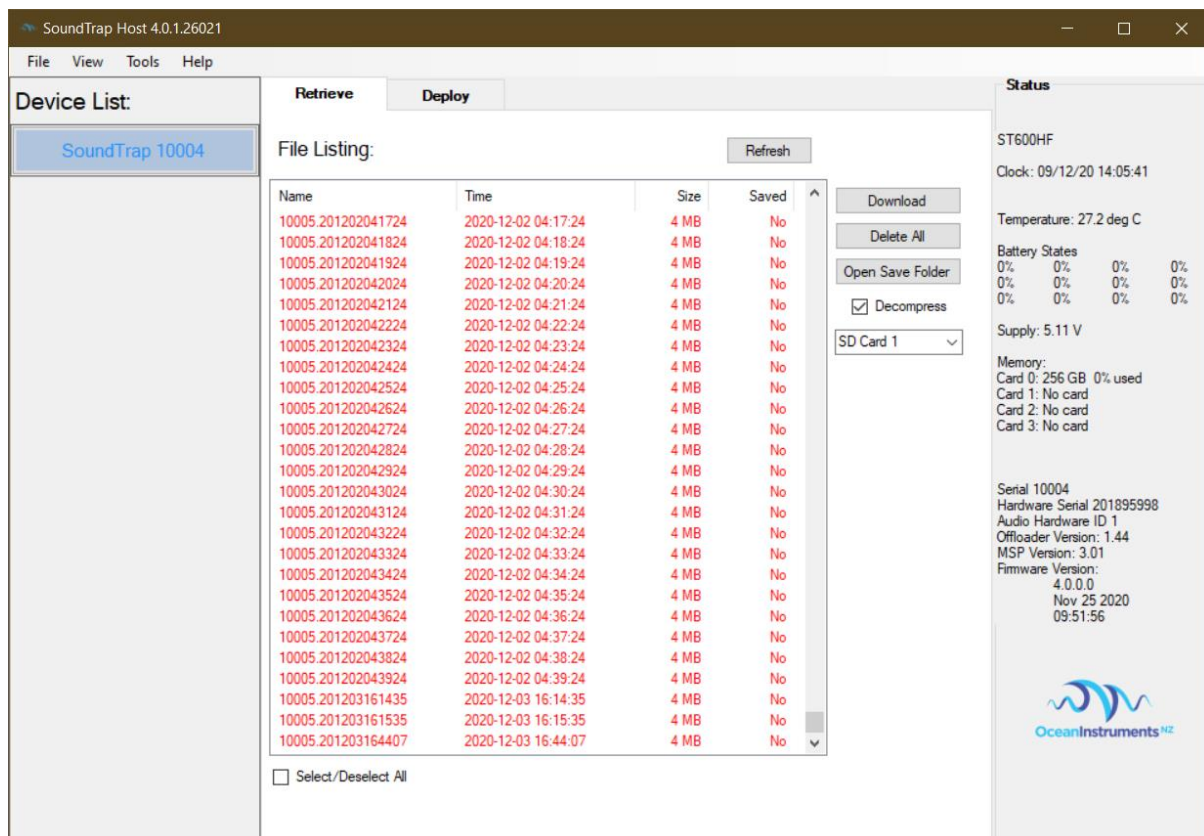

Figure 3 – Retrieve Tab
- The drivers will take a couple of minutes to install. Once complete you should see your SoundTrap appear in the 'Device List' on the left, as shown in figure 3.